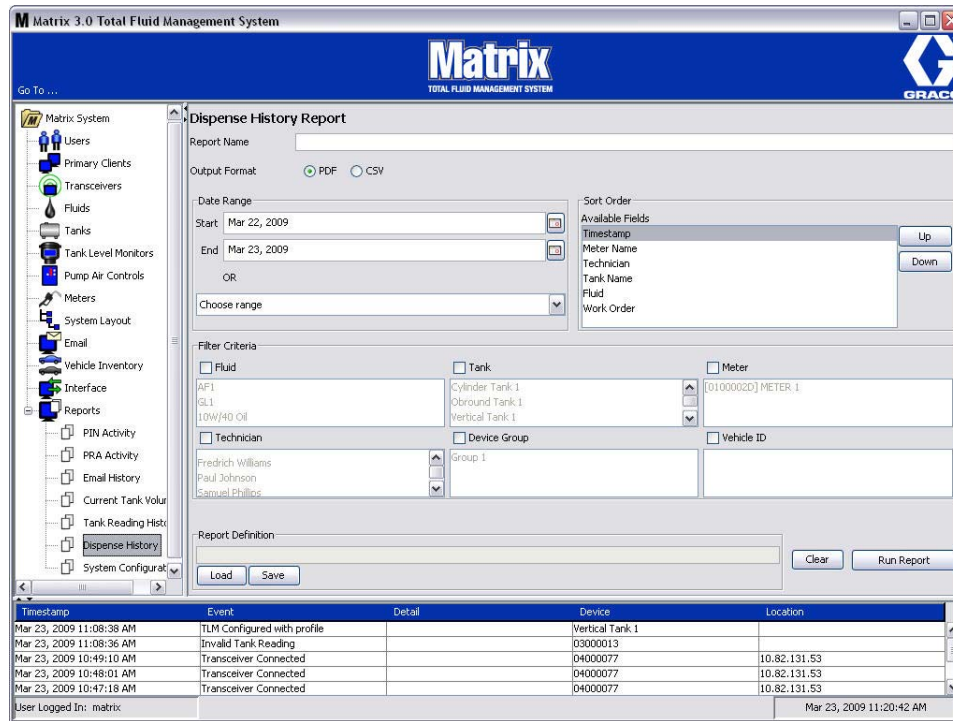

FIG. 196
- **Dispense History (FIG. 196)**